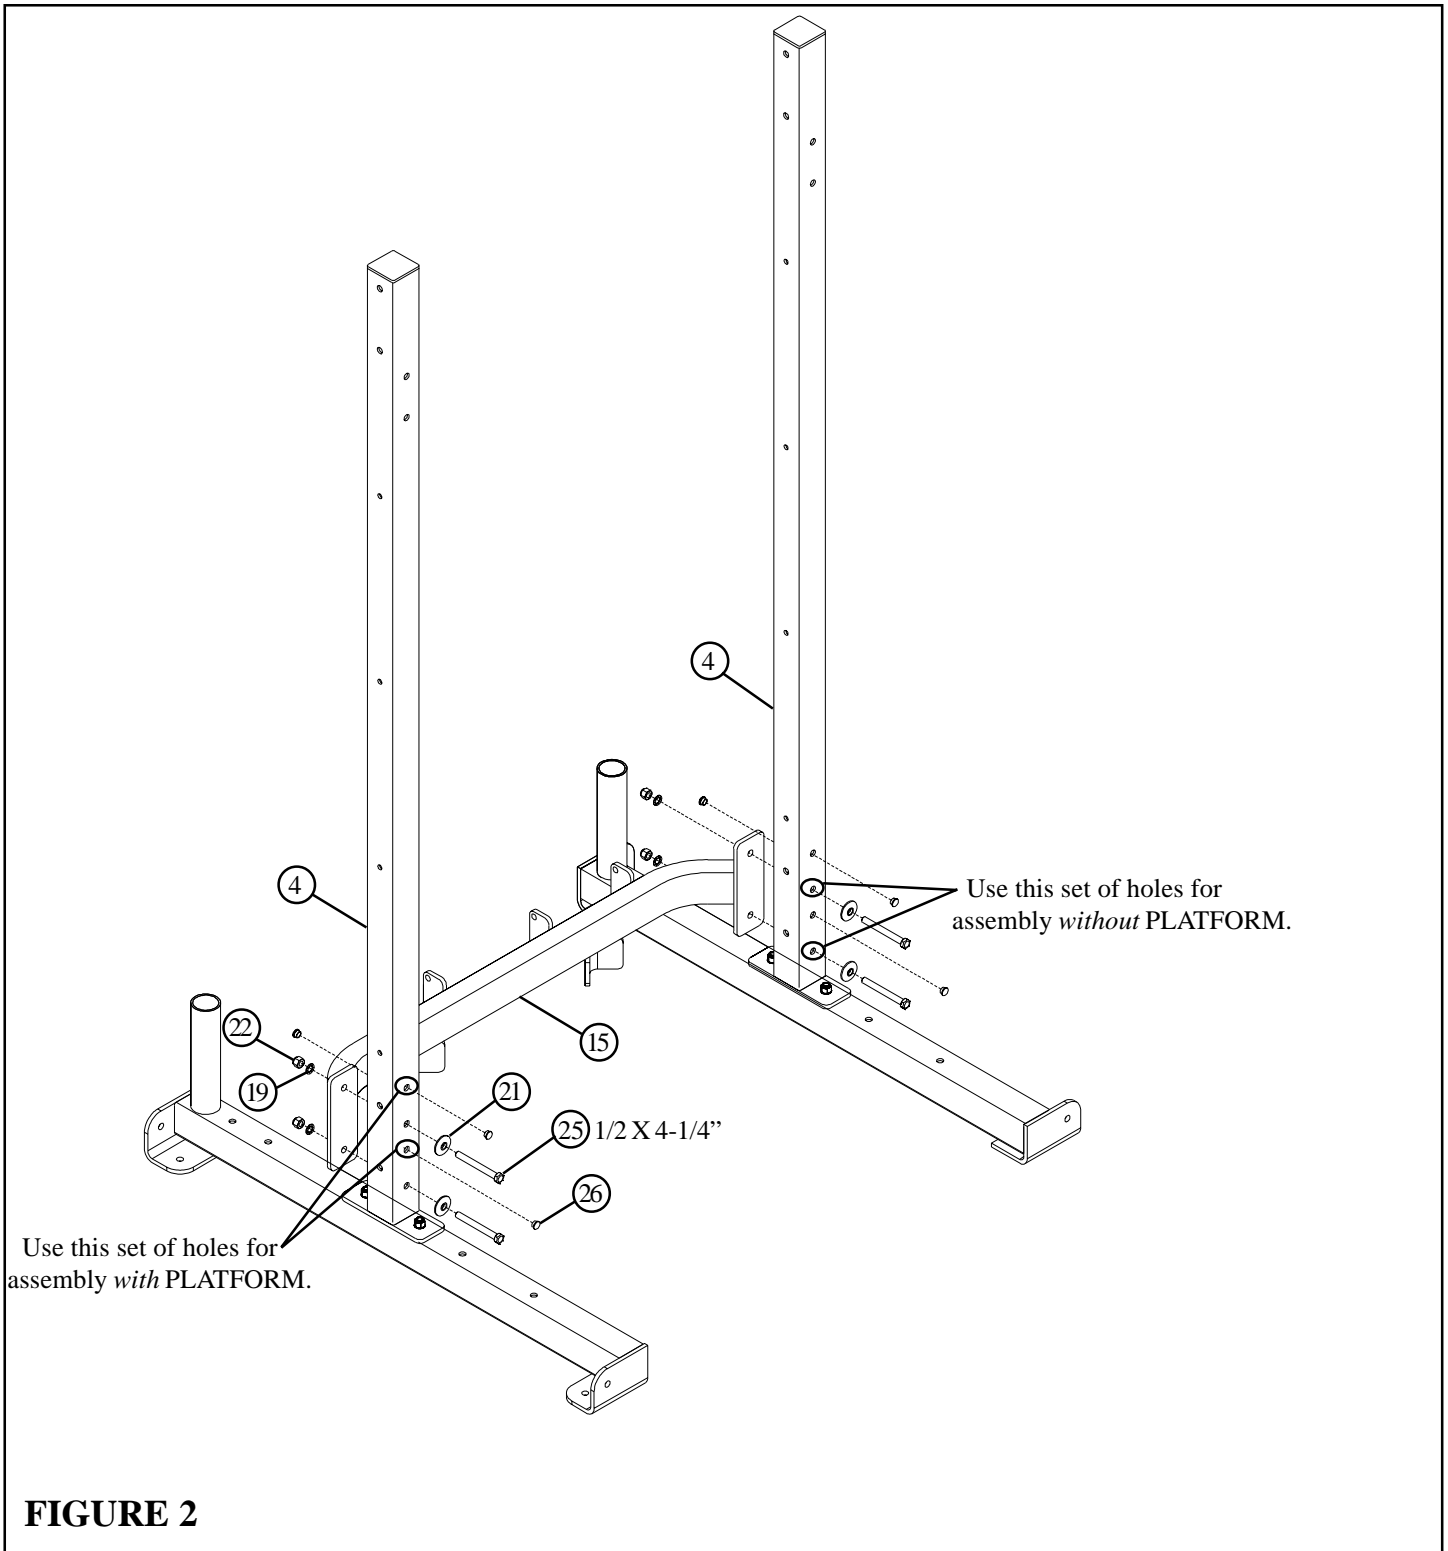

**FIGURE 1**
- **LOOSELY** assemble the REAR UPRIGHT (4) to the LEFT UPRIGHT BASE (1) using two 1/2 X 4-1/4\" BOLTS (25), two 1/2\" PLASTIC DOME WASHERS (21), two 1/2\" INT TOOTH LOCK WASHERS (19) and two 1/2\" LOCK NUTS (22) as shown in FIGURE 1.
- **LOOSELY** assemble the REAR UPRIGHT (4) to the RIGHT UPRIGHT BASE (2) using two 1/2 X 4-1/4\" BOLTS (25), two 1/2\" PLASTIC DOME WASHERS (21), two 1/2\" INT TOOTH LOCK WASHERS (19) and two 1/2\" LOCK NUTS (22) as shown in FIGURE 1.